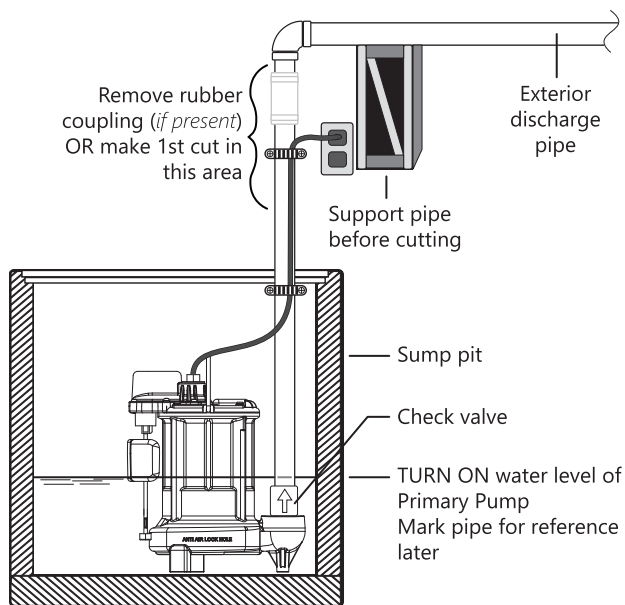

Figure 3. Mark and Cut Pipe
- ◆ To avoid an injury from a collapse of plumbing, support the pipe above the separation before cutting or disassembly. See Figure 3.
1. Locate the TURN ON water level of the primary sump pump. Mark this location on the discharge pipe. See Figure 3.
- b. For applications without rubber couplings, cut the PVC discharge pipe above the basement floor, at a comfortable level. A new rubber coupling is needed for reassembly. See Figure 3.